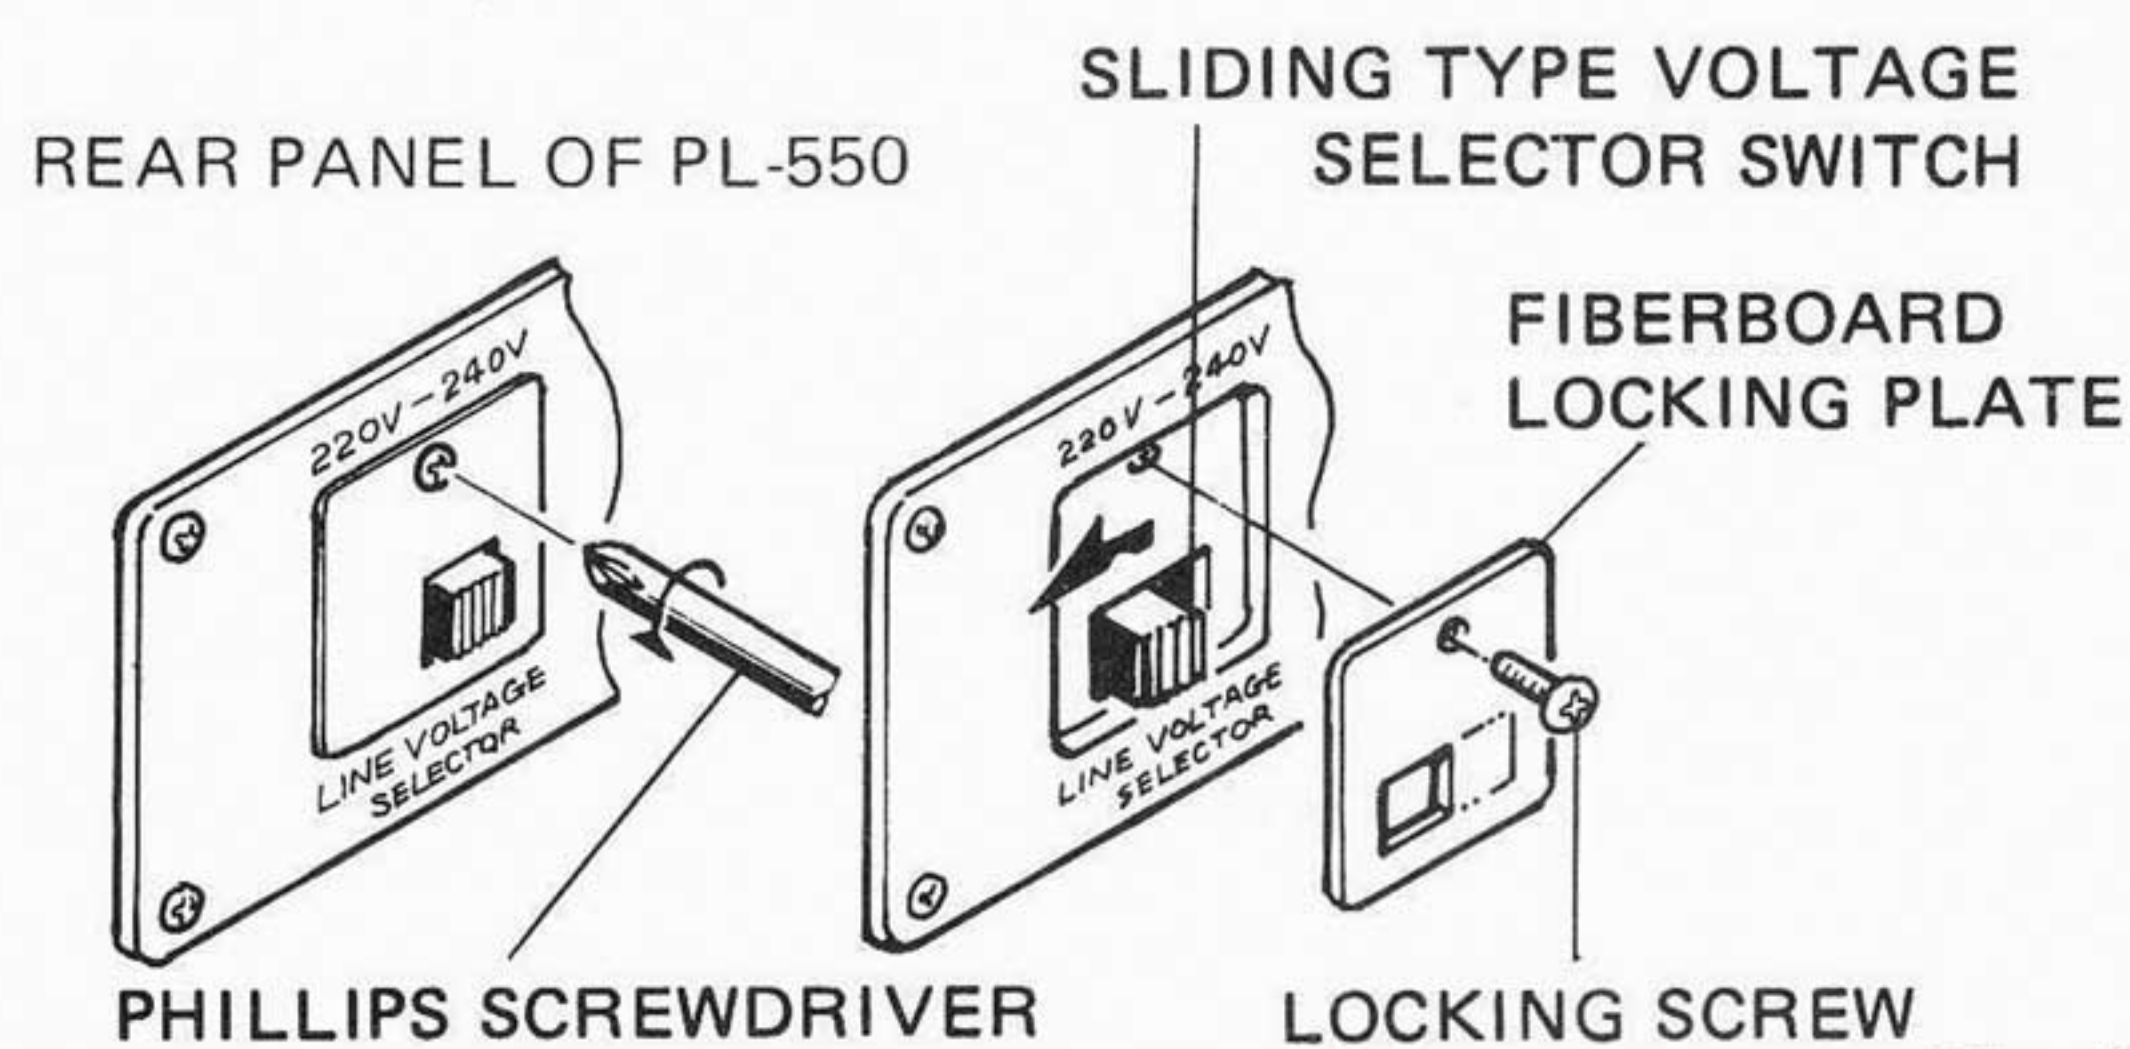

Fig. 4
- (1) Using a phillips screwdriver, loosen the screw which attaches the locking plate to the voltage selector switch and remove both screw and plate.
- (2) Set the voltage selector switch to the voltage used in your locality(Fig. 4).
- (3) By turning the locking plate over, set it over the selector switch so that the switch is locked in position. Retighten the screw which attaches the locking plate.